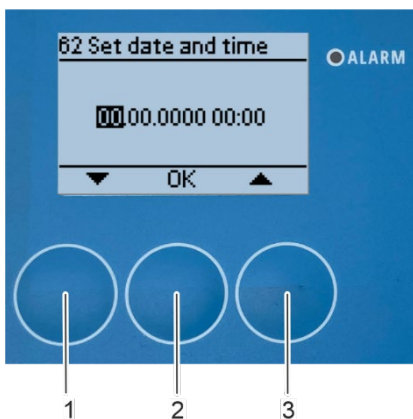

Fig. 110: Set day of month
⇒ The “Set date and time” submenu appears (Fig. 110).
3. Set the day of the month using the arrow keys [up] (Fig. 110/3) and [down] (Fig. 110/1)
4. Confirm the selection with [OK] (Fig. 110/2).